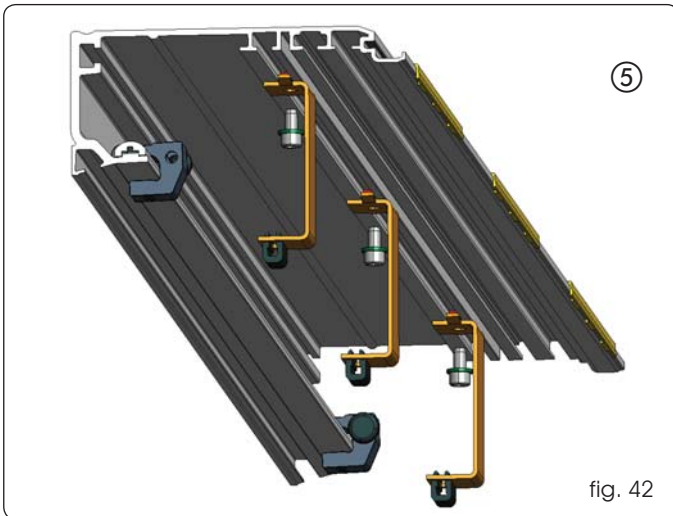

fig. 42
If you do not want to install side panels, you need to fit 3 housing fixing brackets, two lateral and one central (for profiles longer than 3 m), as shown in fig. 42 ref. 5.